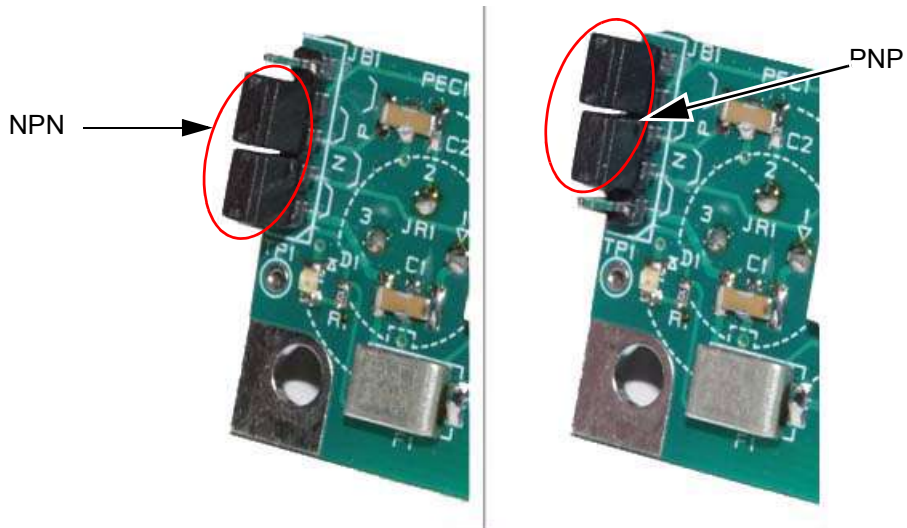

Figure 4-38: Product Detector Configuration
- 1 The photocells may be either NPN or PNP devices. The default signal input is NPN. Set Jumper JB1 on the CSB to match the device type (see Figure 4-38).